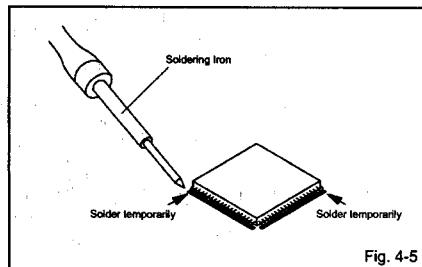

Fig. 4-5
- Take care of the polarity of new IC and then install the new IC fitting on the printed circuit pattern. Then solder each lead on the diagonal positions of IC temporarily. (Refer to Fig. 4-5.)